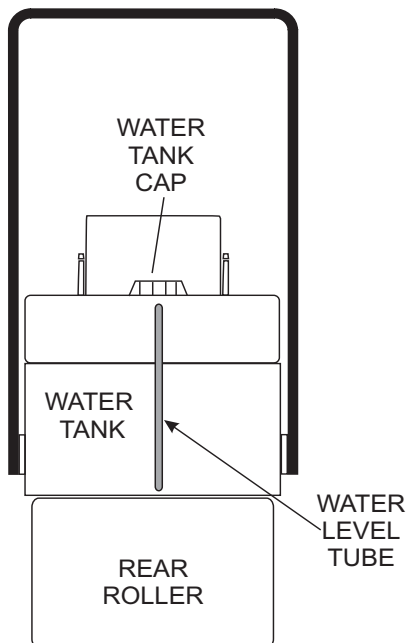

Figure 15. Water Tank
2. The amount of water inside the water tank can be visually inspected by reading the water tube (Figure 15) that runs vertically along the water tank at the rear of the roller. This tube indicates the amount of water inside the water tank. Total tank capacity is 60 gallons (227 liters)